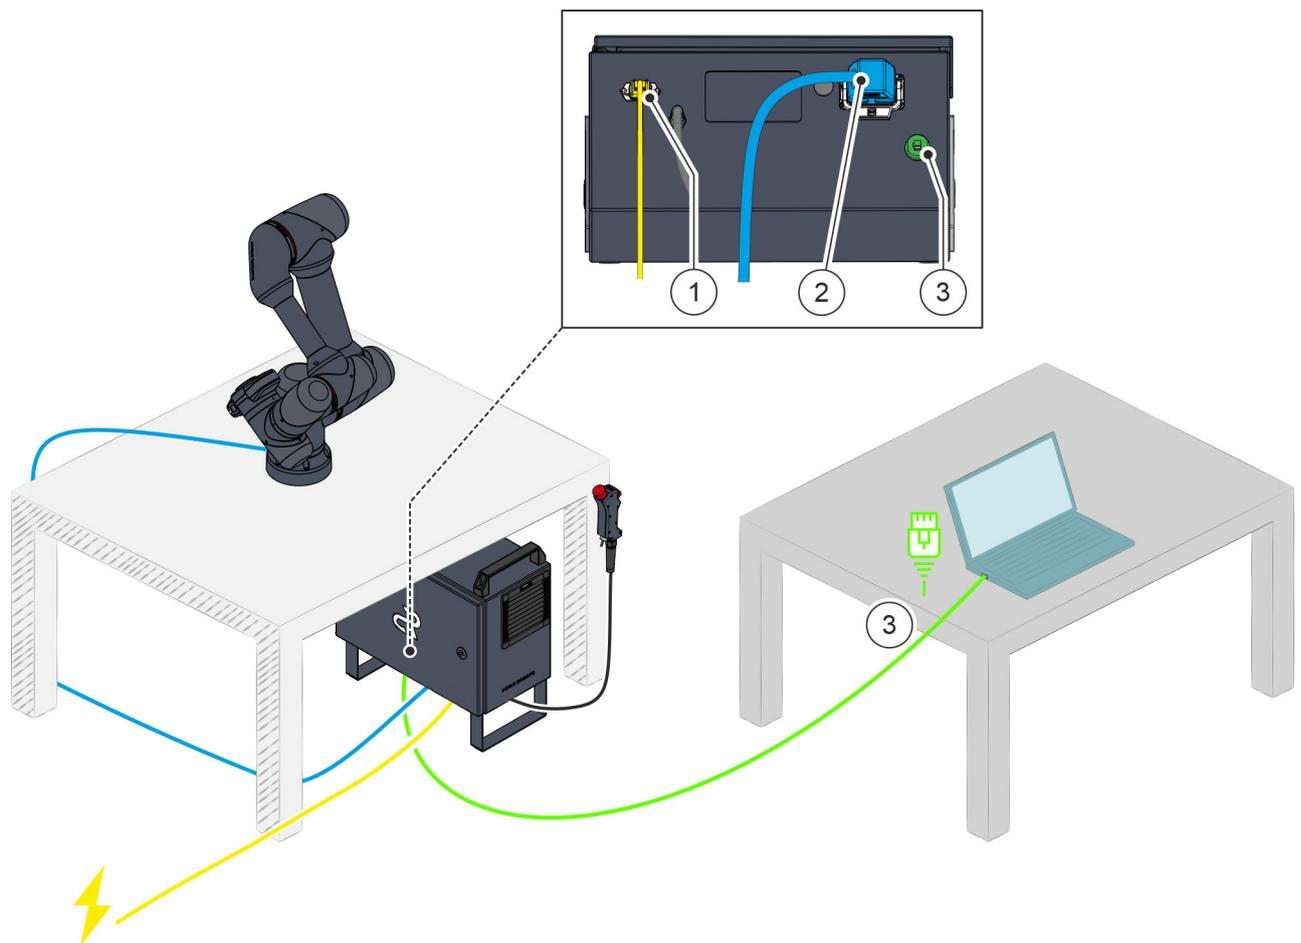

Fig. 93 Undoing the connecting cables
- Disconnect the power cable and remove it from the connection to the robot controller **Fig. 93 / ①**.
- Disconnect the robot's connecting cable and remove it from the connection to the robot controller **Fig. 93 / ②**.
- Disconnect the Ethernet cable from the ports on the laptop and robot controller **Fig. 93 / ③**.